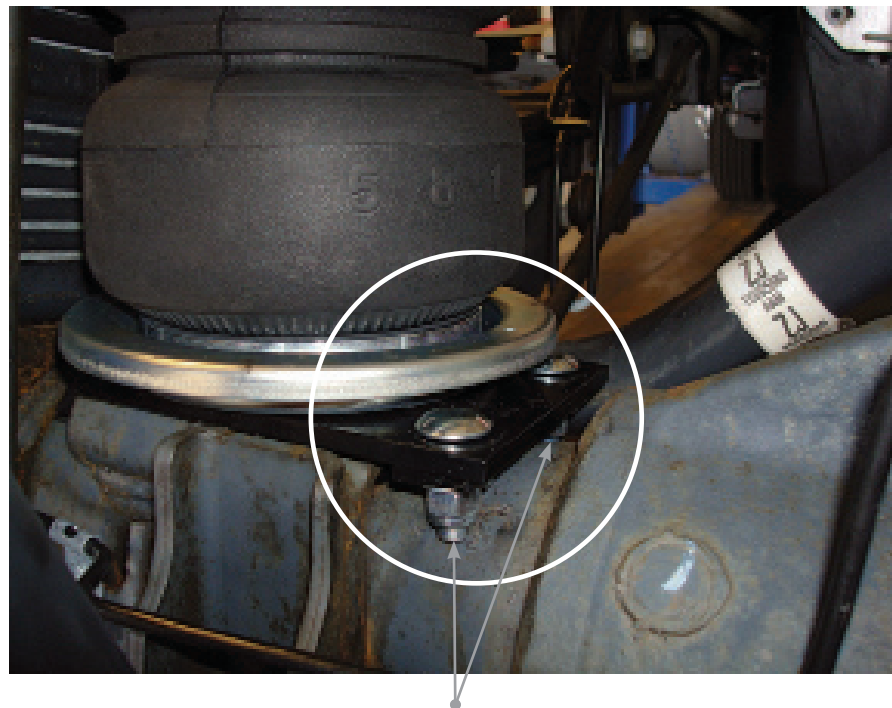

fig. 6
3. While setting the lower bracket into position, insert the lower bracket carriage bolts into the holes in the clamp (E). Cap with two 3/8 flat washers (J) and nyloc nuts (P) and tighten both nuts evenly until tight (fig. 6).